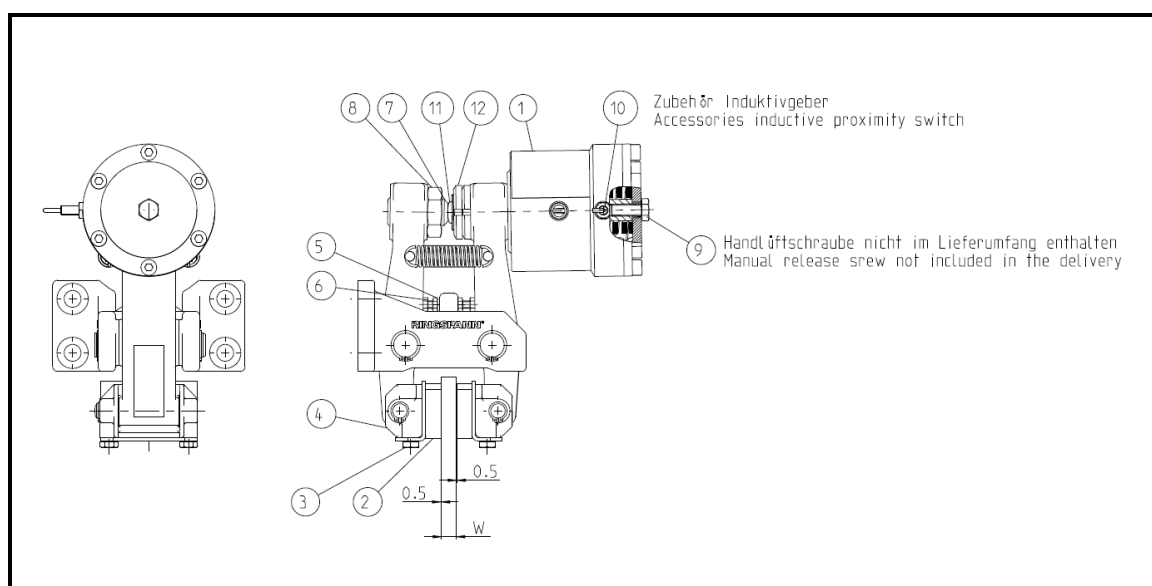

Fig. 2.1
The brake pad distance is set after the brake calliper has been assembled and after brake pad wear through adjusting/readjusting. See also Fig. 2.1.
The setting/adjusting process of the FHM version manually brake has to be carried out with the set screw (item 7) and the two adjusting screws (item 5), shown in Fig. 2.1.
The setting/adjusting process of the FHA version automatic brake has to be carried out only by using the two adjusting screw (item 5), shown in Fig. 2.1.